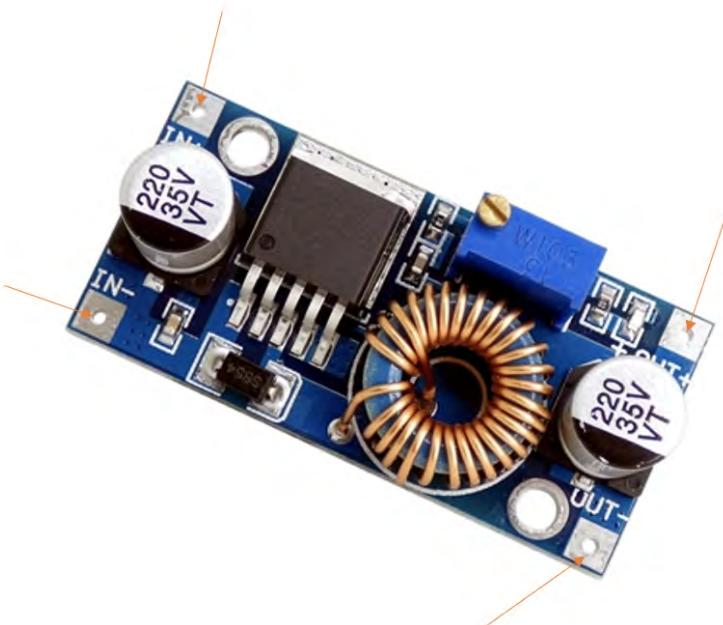

Fig. 31 (Buck converter)
3. Buck converters - to wire in the power into the buck converters the first step is to expose the wires from the 3 9v power supplies. After this prepare the wires by twisting the exposed strands of the positive side together and then twisting the exposed strands of the negative side together. Next insert them into the positive and negative spots on the buck converter (Fig. 31) and solder these connections to make them permanent. Repeat this process for the other two buck converters. Cut 3 lengths of black wire 2 feet in length then cut 3 lengths of red wire 2 feet in length. Next strip the ends of all lengths of wire and prepare them by twisting the exposed strands together. Insert the black wires into the out negative spots on each of the buck converters (Fig. 31) and solder them in place. Insert the red wires into the out positive spot on the buck converters (Fig. 31) and solder them in place.